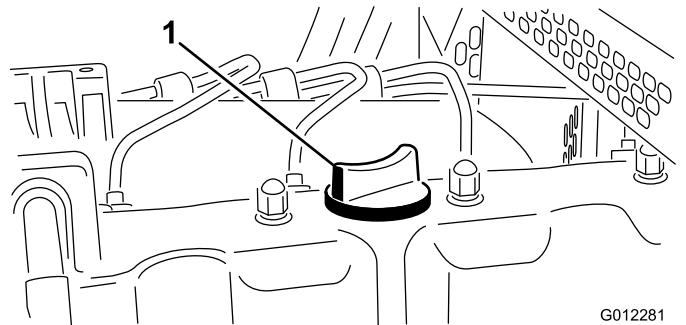

Figure 11
5. If the oil level is below the Full mark, remove the fill cap (Figure 11) and add oil until level reaches the Full mark on dipstick.